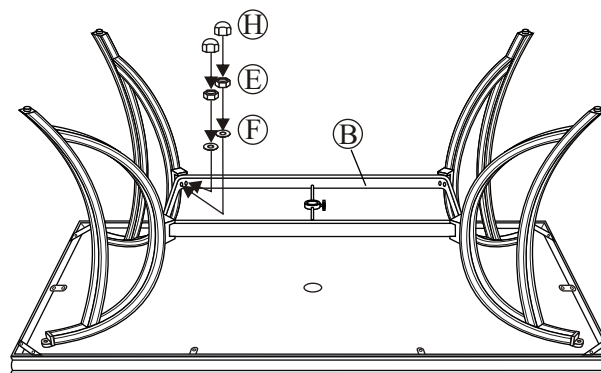

Fig.2
Step3: Attach a leg to the leg connector bracket by carefully guiding the bolts already in place on the table legs (each leg has two bolts) through the holes in the leg connector bracket. Add a washer and a nut to the end of each bolt as shown in **Fig.2**. **Hand tighten only. Do not tighten completely.** Repeat on the other three legs.